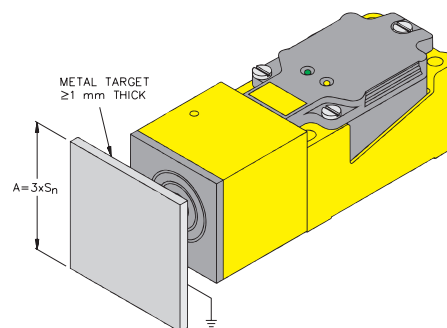

Figure 1
- 2. Adjustment of the potentiometer** – turning the potentiometer in a clockwise direction increases the sensitivity of the sensor. The potentiometer is factory-set for an operating distance of 0.7 to 0.8 S_n to a grounded standard target (Figure 1). It should be adjusted in increments of no greater than a quarter-turn (Figure 2). Increasing the sensitivity results in a greater operating distance to both conductive and non-conductive targets.